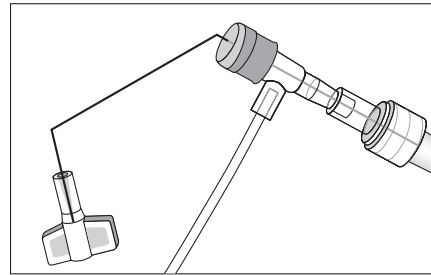

Figure 3
- Kink proximal end of stiffening stylet at side-port connector to minimize risk of stiffening stylet exiting distal tip of catheter during insertion (refer to Figure 3).